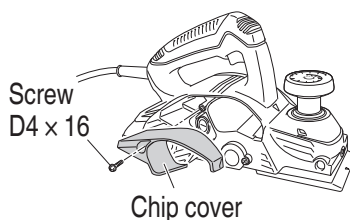

Fig. 26
- (1) Remove the screw D4 × 16 in the chip cover and remove the chip cover as shown in **Fig. 26**.